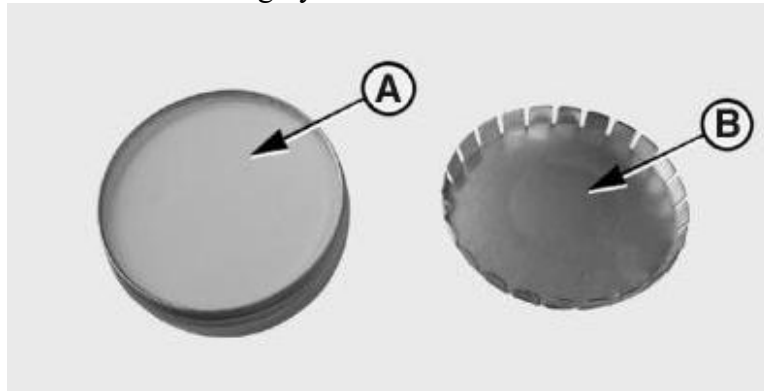

Figure 22. Gray Reference Identification
See Figure 22 for identification of the gray reference.
7. On the “Generate Map Screen”, select one of three options as shown in Figure 22.